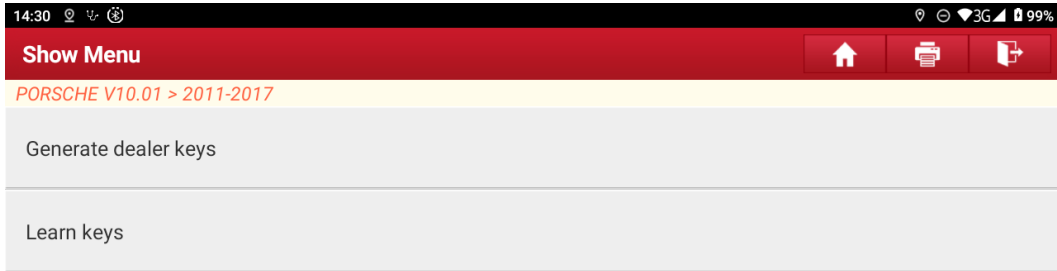

Figure 2-1 Immobilizer Key Matching sub-function menu
- Return to the main menu of the immobilizer function and choose Immobilizer Key Matching > Cayenne > 2011-2017. The current menu is shown in Figure 2-1.